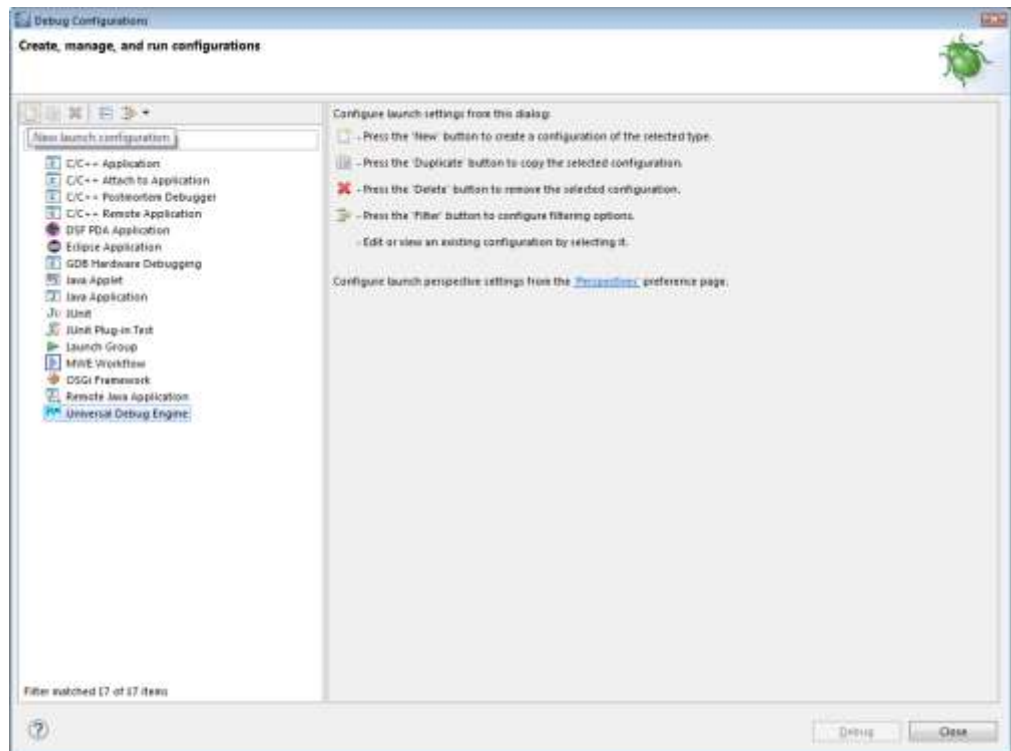

Figure 29 Debug Configurations dialog
2. The **Debug Configurations** dialog appears. Select **Universal Debug Engine** as debug type (Figure 29).